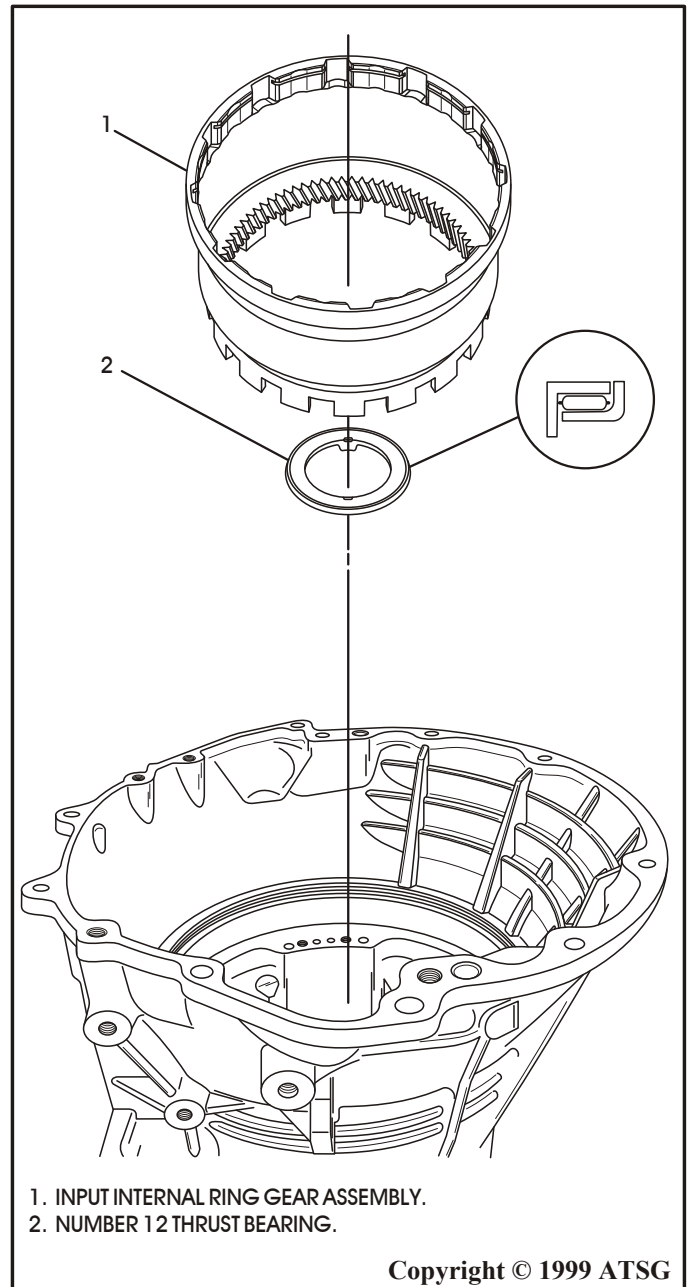

Figure 112
14. Install the number 12 thrust bearing assembly onto the low/reverse clutch housing with the inside tabs facing down (See Figure 112).
15. Install the input internal ring gear assembly as shown in Figure 112 and ensure that the lugs are engaged onto the low roller outer race.